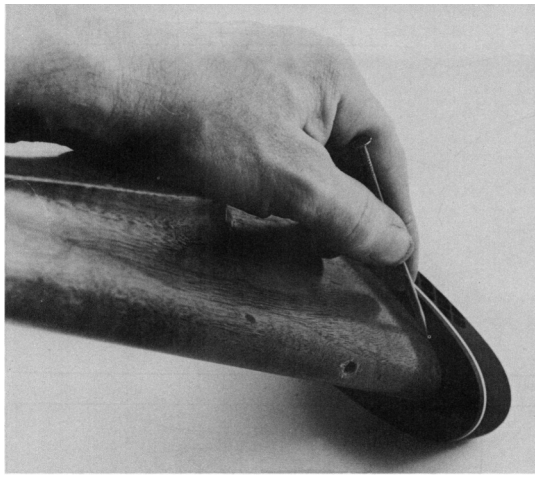

Fig. 6-19. Scribing the sanding line on the pad.
11. Use the scribe to score the pad at the junction of pad and stock (Fig. 6-19). Use a 45-degree angle to keep the scribe mark as close to the wood as possible. Score all the way around twice to get a good scribed line.